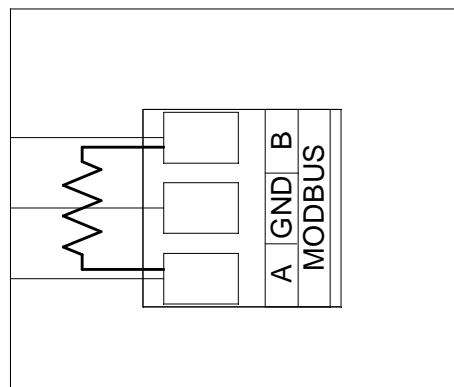

Figure 19: Installing the Terminating Resistor
4. If a VOC Pro or T3A detector is the final terminating detector head, then a separate, 120 Ohm, 3/4W terminating resistor must be installed at the detector head's Modbus terminal strip between terminals A and B as shown in Figure 19.